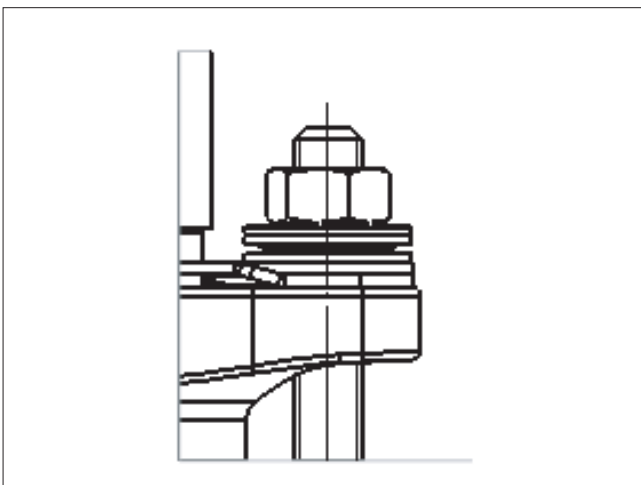

Fig. 12 Standard live-loading
- For the standard live-loading option (Figure 12), please refer to Table 5 for the tightening torques. Install the disc springs one at a time, in opposite orientations, make sure the first installed disc spring has its wider area pointing down.